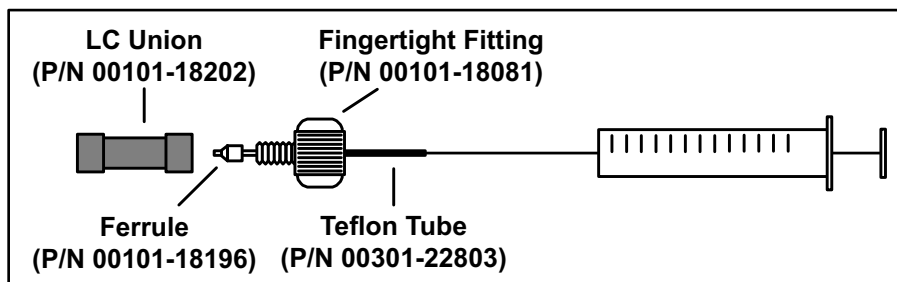

Figure 27. APCI/APPI/MS plumbing connections for the syringe pump
1. Connect a 4 cm (1.5 in) segment of Teflon tubing with a (brown) FingerTight fitting and a (brown) ferrule to the (black) LC union (Figure 27).